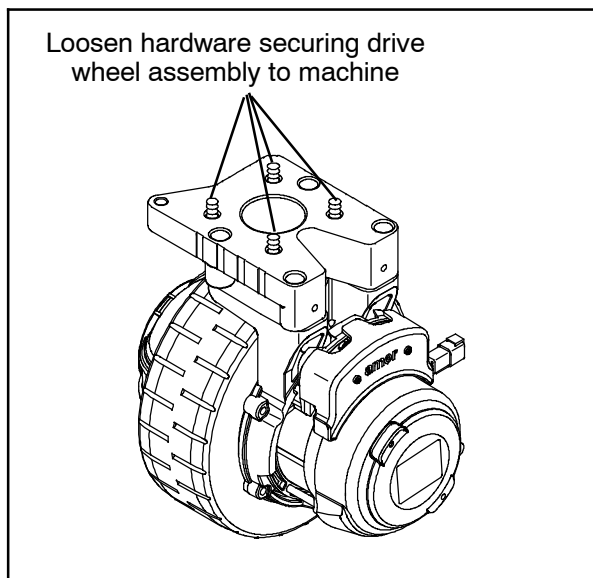

FIG. 2
3. Completely loosen the hardware securing the drive wheel assembly to the machine and remove the drive wheel assembly from the machine. (Fig. 2)